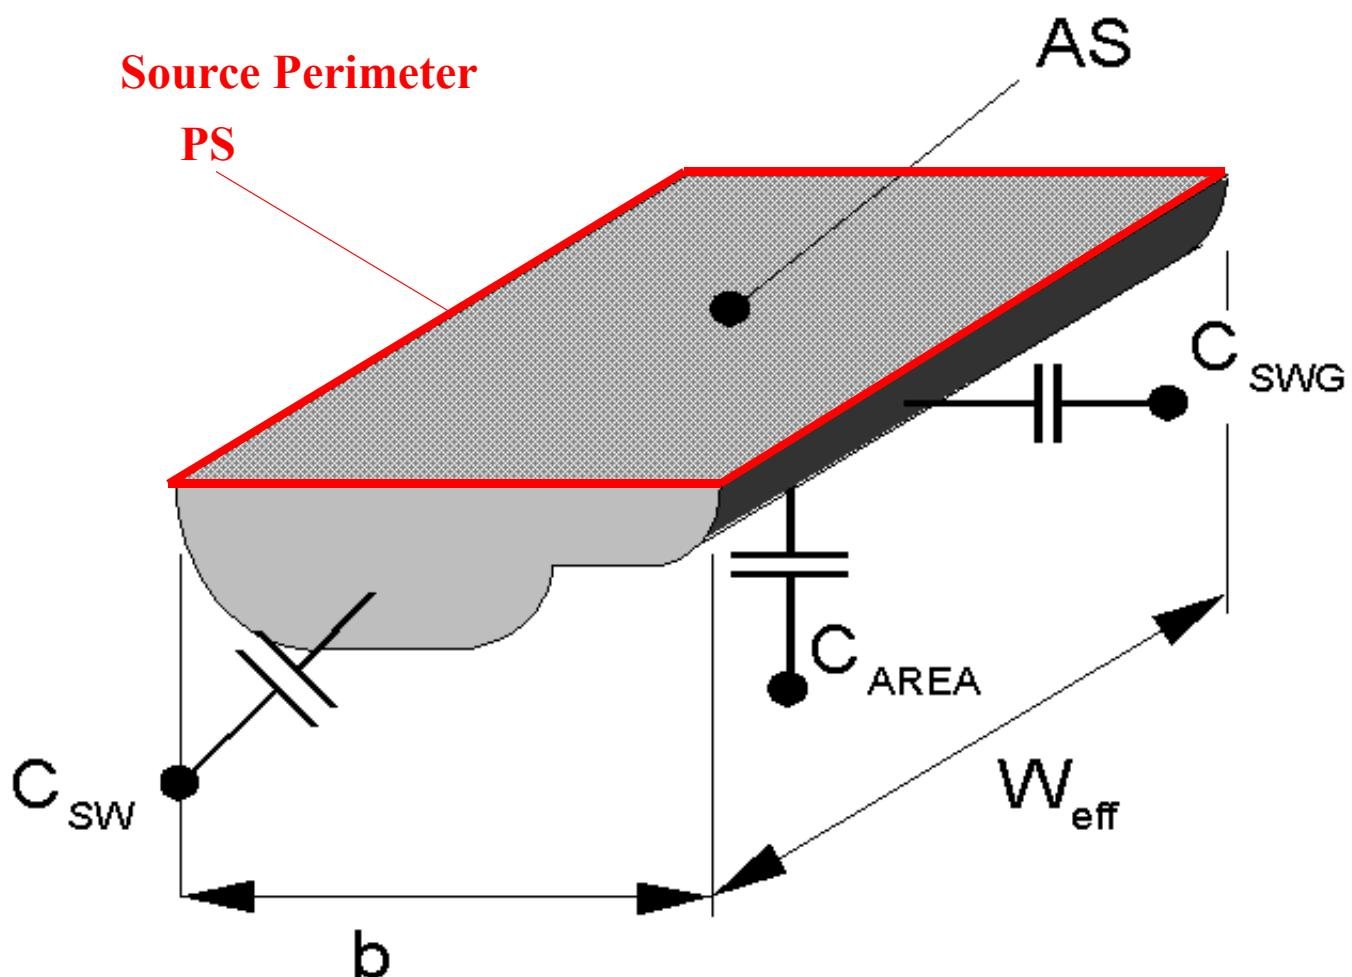

Figure 1-29. Device geometries
For each line, you can change the predefined name for the DUT and enter necessary geometrical data. For your convenience, only relevant data is to be entered for a specific group of capacitances. Relevant data fields are shown with white background and can be edited, grey shaded data fields are not editable. For example, DUTs to measure bulk-drain junction capacitances do not require gate length and width (L, W), source area (AS) and perimeter length of source (PS) geometrical data. You only have to enter drain area (AD) and drain perimeter (PD) as well as the number of device fingers (NF) of the transistor to be measured. See Figure 1-29 for some details on capacitances and geometries.
You can enter a module name and a comment for each DUT. If you are using a switch matrix, you must enter the pin numbers of the switch matrix pin connections to the transistor. Only relevant connections are to be entered, in case of the bulk-drain diode, no source connection must be entered (the appropriate field is grey shaded). See Figure 1-29 for details on device geometries and Table 1-2 for requirements on a proper extraction of diode data.